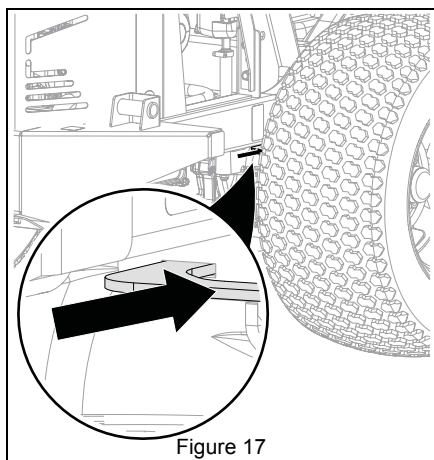

Figure 17
5. Return transaxle bypass levers to operating position. See Figure 17.